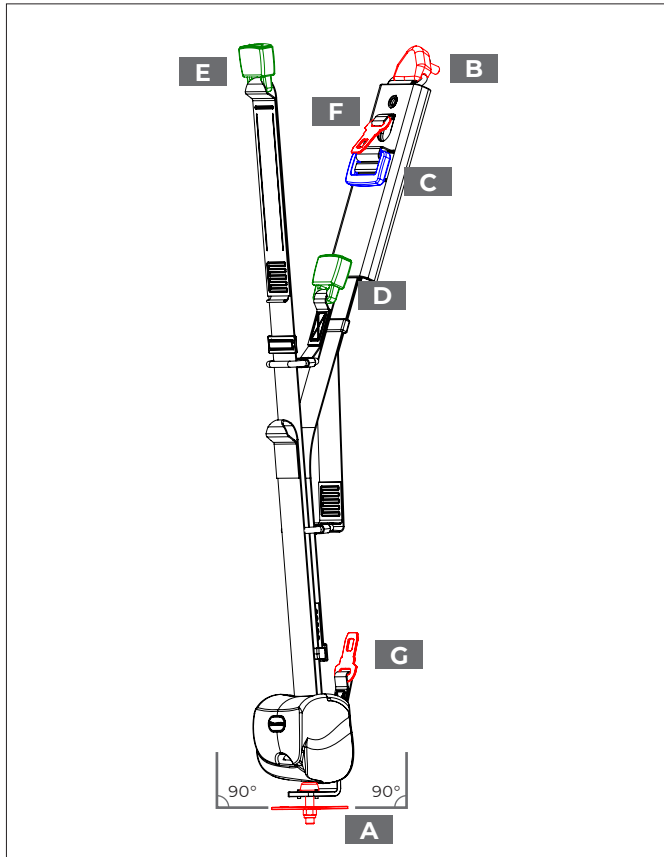

Figure 5
2. The componentry, (Fig. 5), is assembled with inertia reel anchorage points, (Fig. 5A), and the upper 3rd point, (Fig. 5B), fixed to an approved anchorage position on the vehicle body. The inertia reel should be mounted at an angle of 90/90° as viewed in 2 planes to the road level, (Fig. 5). The reel and its bracketry is bolted through the vehicle and reinforced on the underside, if required, with the 100mm diameter load spreader plate and nyloc nut, (Fig. 5A). All bolts T-Bolts should be tightened to a torque of 40Nm. **Note:** All vehicle anchorage points may require reinforcement as necessary to meet any required minimum strength recommendations for the vehicle.